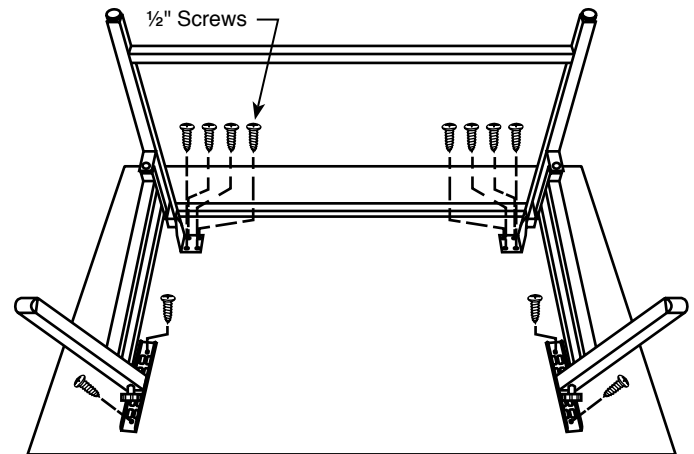

Figure 1
- 6 Using the Phillips screwdriver, screw the leg support braces (G) onto the tabletop (B) as shown in *Figure 1*.
- 7 Carefully turn table frame upside down and place on top of tabletop. Align holes in front leg extensions (D) with holes in table top as shown in *Figure 1*. Fasten all 1/2" screws (H) and tighten securely. Use care not to overtighten and strip.
- 8 Carefully return table assembly to the upright position. Adjust table top to desired height using height adjustment knobs (F).